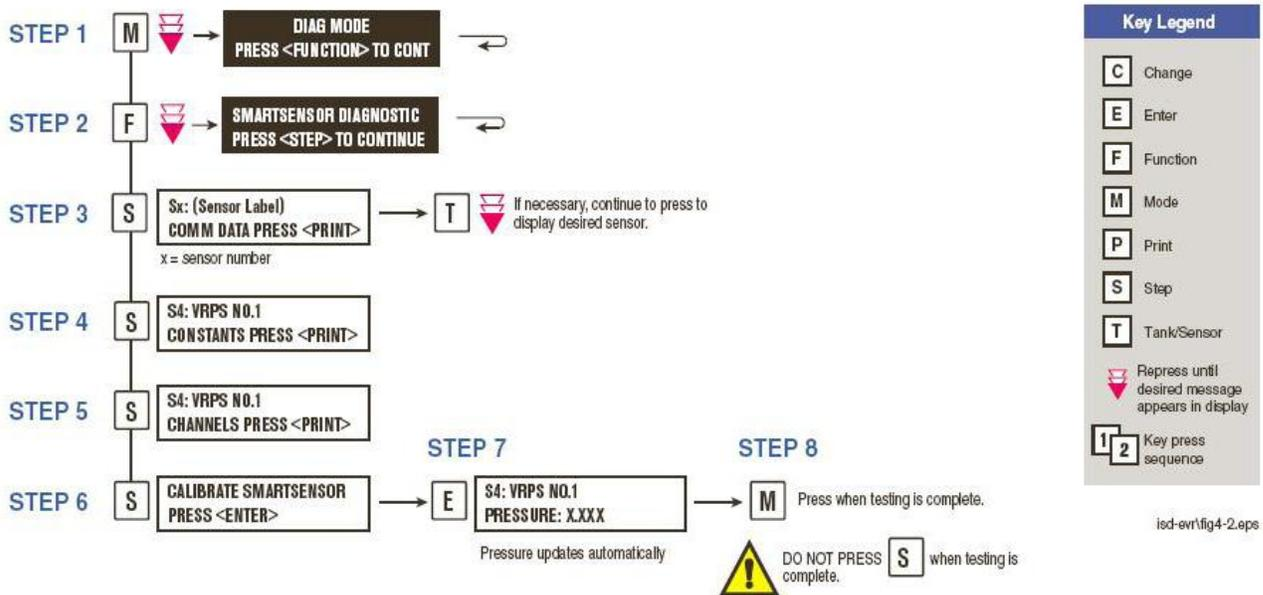

Figure 10-6
If the Vapor Pressure Sensor is installed on the vent stack, the pressure of the USTs is determined at the vent stack test port as shown in Figure 10-6. The vent stack test port is equipped with a quick connect fitting that is connected to an electronic pressure measuring device or digital manometer. This test can be performed while product is being dispensed into motor vehicles.
- 3.5 If the Vapor Pressure Sensor is located at the vent stack, the UST pressure must be determined at the vent stack test port as shown in Figure 10-6.
- 5.3.1 A test port and female quick connect fitting shall be installed on the plumbing below the Vapor Pressure Sensor enclosure as shown in Figure 10-6. A Swagelok, part number SS-QC4-PM, quick connect fitting or equivalent can be used.
- 5.3.3 Various pipe fittings to accommodate ¼ inch test port, including half inch NPT female tee fitting and half inch to quarter inch reducer, as shown in figure 10-6.